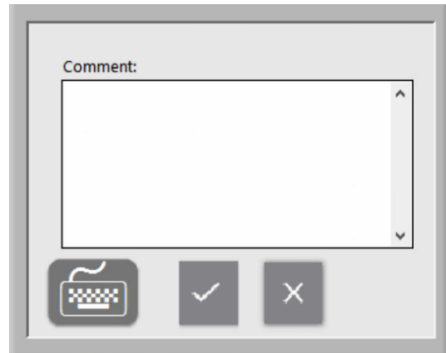

Figure 42: Comment Window
- If desired, a comment can be added to the Assay Results.pdf by tapping on the **Add Comment** button. This will open a Comments window where the user can add a comment (Figure 42).